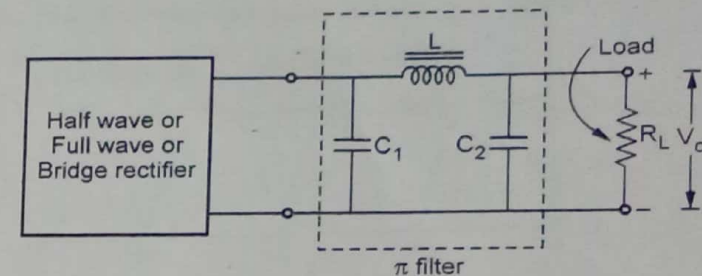

Fig. Q.36.1
- The capacitors are connected in shunt while an inductor is connected in series between the two shunt capacitors as shown in the Fig. Q.36.1.